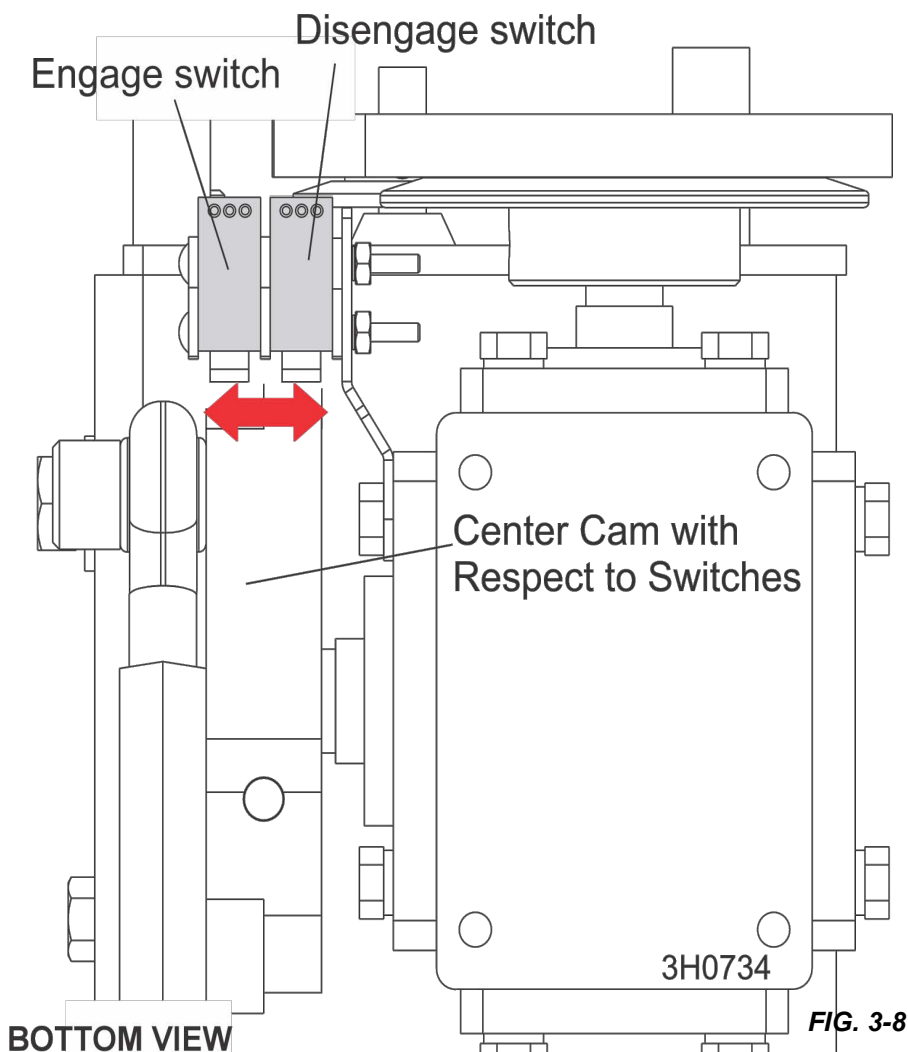

FIG. 3-8
3. Adjust the cam on the shaft as necessary until the cam is evenly spaced with respect to both microswitches. **See Fig. 3-8.**